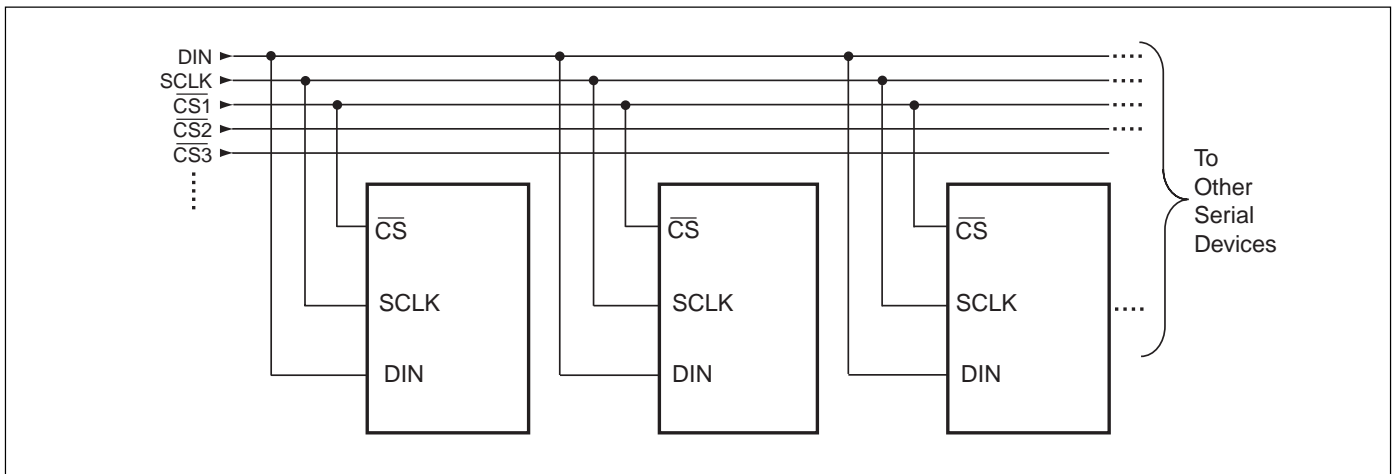

Figure 5. Addressable Serial Interface
- See Figure 5. Off isolation = $20 \log_{10} V_{COM}/V_{NO}$, V_{COM} = output, NO = input to off switch.
6. See Figure 5. Off isolation = $20 \log_{10} V_{COM}/V_{NO}$, V_{COM} = output, NO = input to off switch.
For a simple interface using several PS395s, "daisy chain" the shift registers as shown in Figure 5. The \overline{CS} pins of all devices are connected together, and a stream of data is shifted through the PS395s in series. When \overline{CS} is brought high, all switches are updated simultaneously. Additional shift registers may be included anywhere in series with the PS395 data chain.